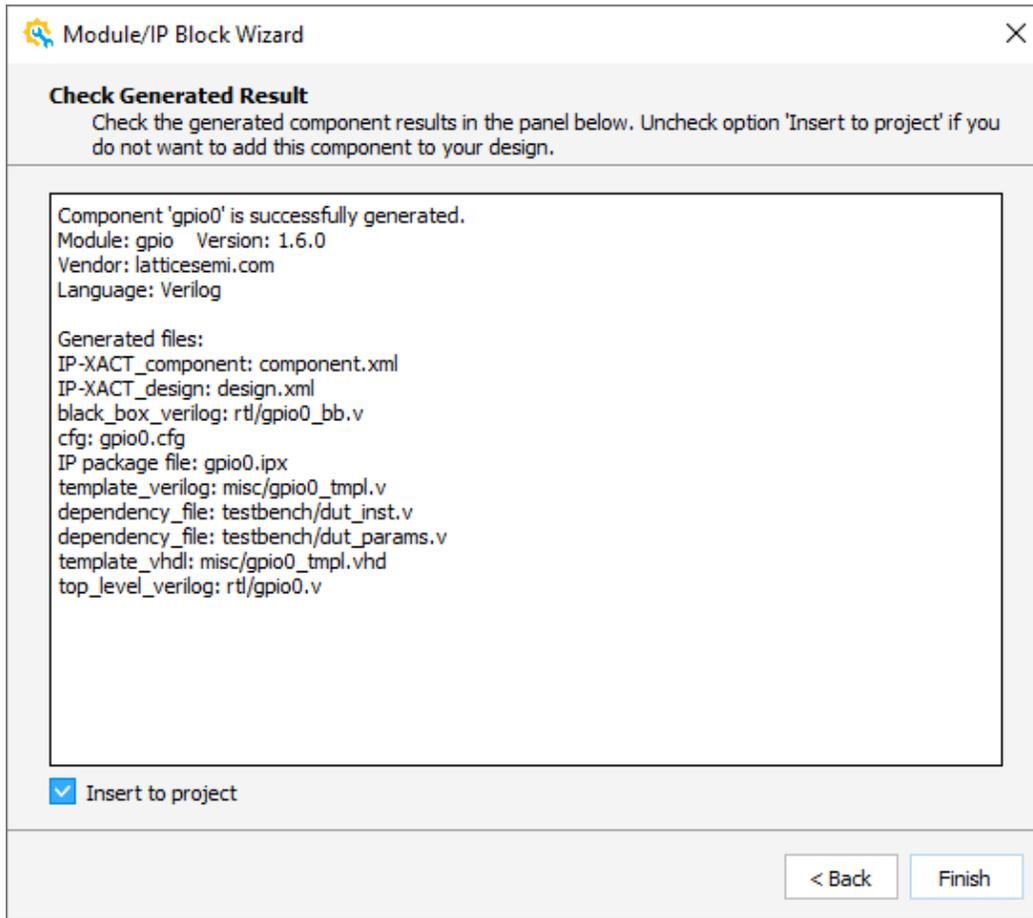

Figure 2.17. Module/IP Block Wizard - Check Generated Result
- Click **Generate**. Module/IP Block wizard shows the Check Generated Result page (Figure 2.17).
- Select **Insert to project** (Figure 2.17) at the bottom of the Check Generate Result wizard, so that a **Define Instance** dialog box pops up as shown in next step. Or, this dialog box does not appear.
- After selecting **Insert to project**, click **Finish** (Figure 2.17). The **Define Instance** dialog box opens (Figure 2.18).